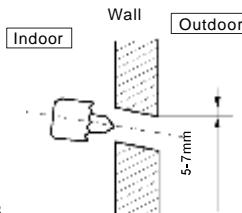

Fig.3
- Drill the piping hole at either the right or the left and the hole should be slightly slanted to the outdoor side, so that the outside end is lower than inside end, see Fig.3.